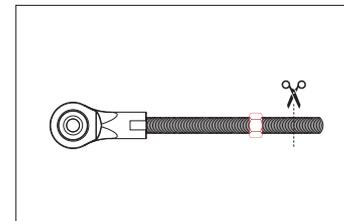

Abb. 29: Marking the intersection
4. If you do not have a tap available for deburring the threaded rod, screw a nut onto the threaded rod before cutting the rod. Use the nut to deburr the end of the rod (Fig. 29).